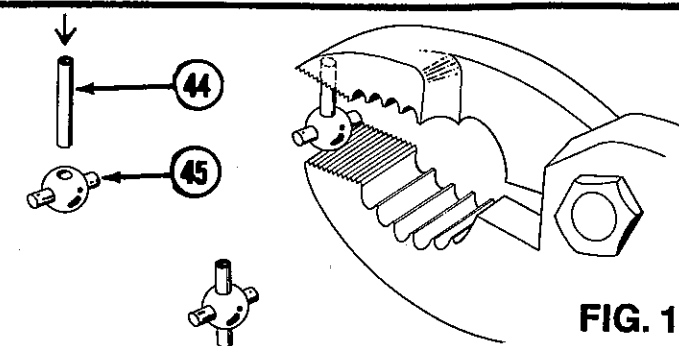

FIG. 18
29. Insert 3/32" x 1/2" spirol pin (44) into universal pivot joint (45) so that it extends out evenly on both sides. Fig. 18.